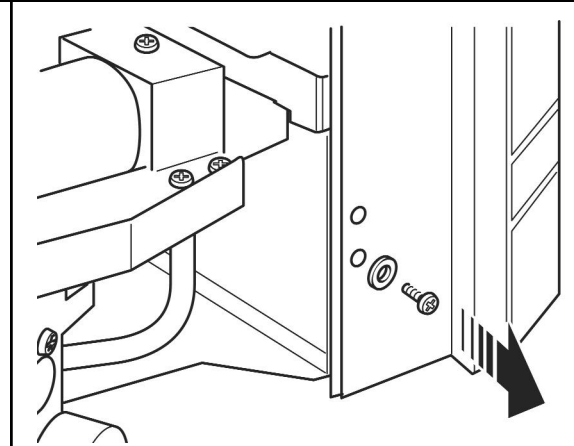

Figure 36. Removing the fascia fixing screws (Shown with Bolero fascia)
2. Remove the two screws securing the bottom of the fascia to the sides of the hotbox (See figure 36). On the Bolero there is also two washers.
3. Carefully lift the fascia upward to clear the upper retaining brackets on the hotbox - (See figure 36). Pull the fascia clear and place carefully aside.